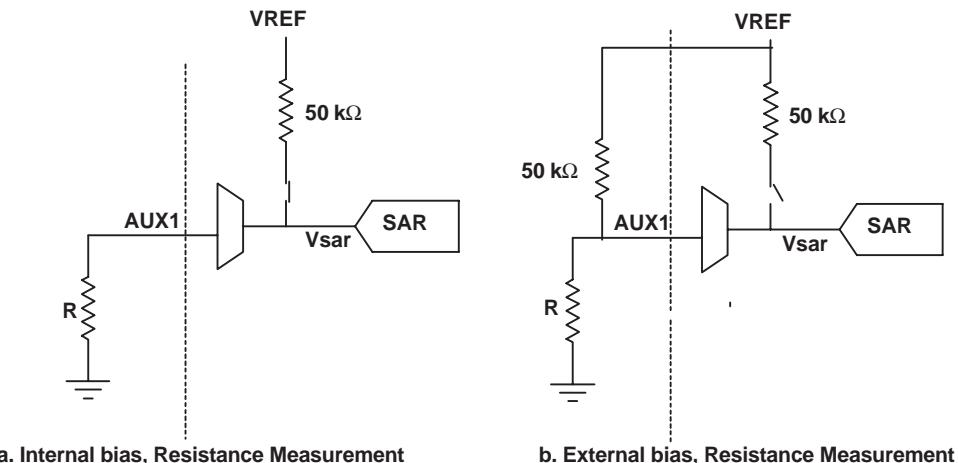

Figure 30. Connection Diagram for Resistance Measurement
The AIC29 provides feature to measure resistance using auxiliary inputs. It has two modes of operation: (1) External bias resistance measurement (2) Internal bias resistance measurement. Internal bias resistance measurement mode does not need an external bias resistance of 50 k Ω , but provides less accuracy because of on chip resistance variation, which is typically $\pm 20\%$. Figure 30 shows connection diagram for resistance measurement mode on AUX1.